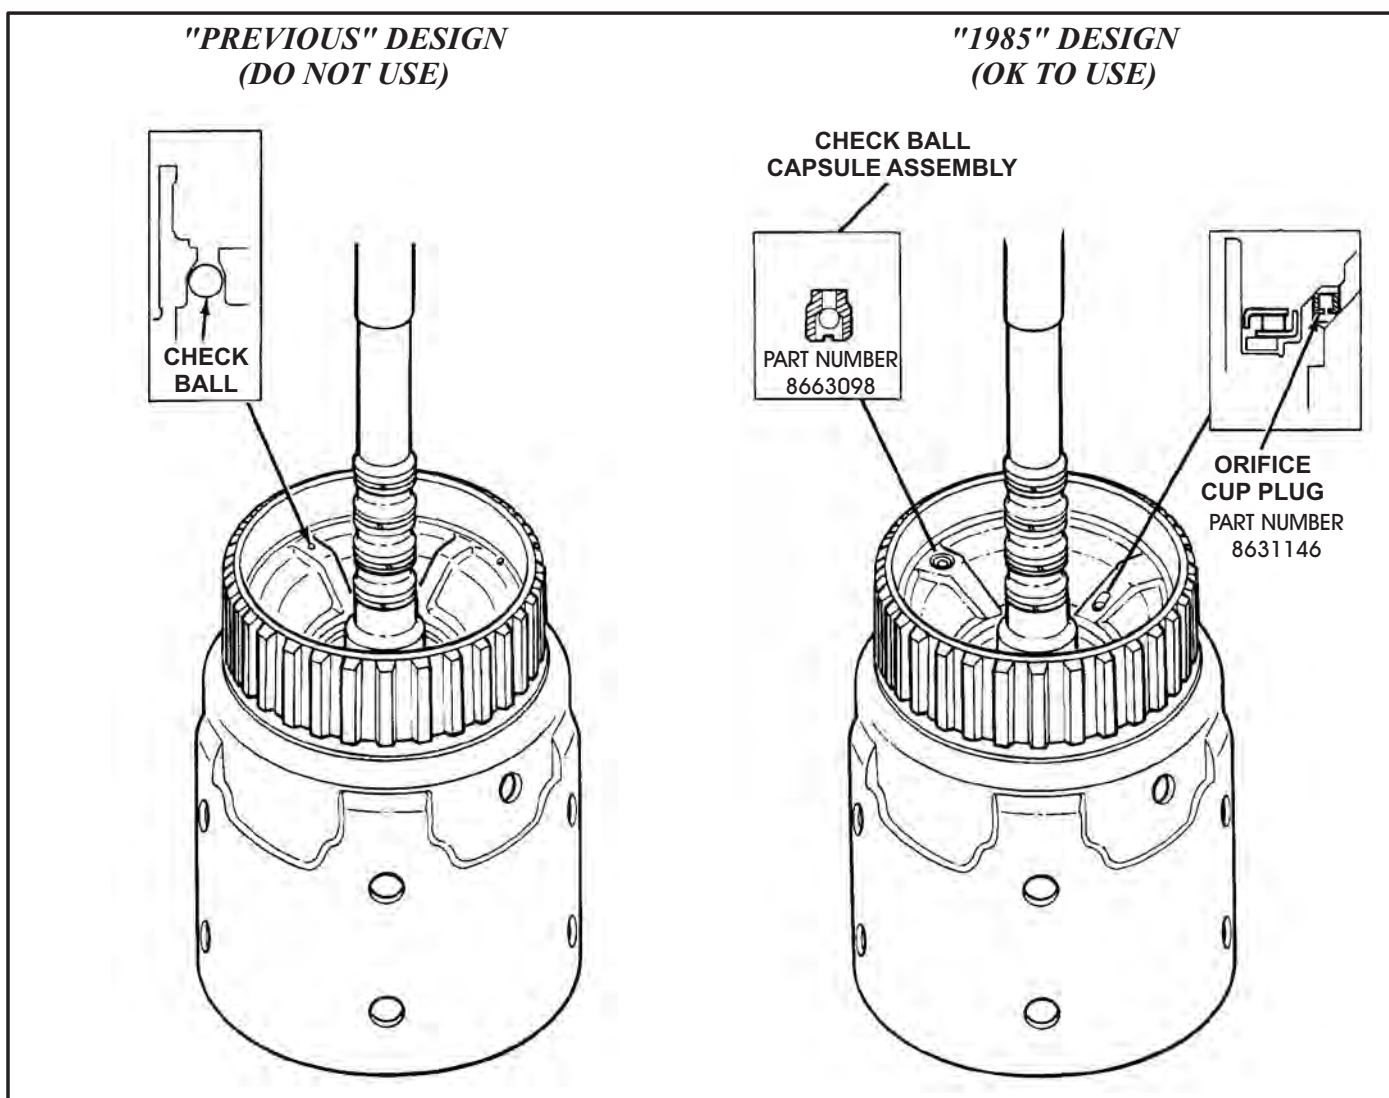

Figure 6
CHANGE: Beginning on January 15, (Julian Date 015) 1984, all THM 700-R4 transmissions were built with a new input housing assembly, as shown in Figure 6. Start of production for 1985, all input housings were also built with an added air bleed cup plug, as shown in Figure 6.
(1) INPUT HOUSING ASSEMBLY - The previous design input housing had a check ball seat drilled into the housing. A check ball was installed into this hole and the opening was then staked to retain the ball, as shown in Figure 6.
The new design **1985** input housing has a check ball retainer assembly which is pressed into the housing, as shown in Figure 6, **and** an added air bleed orifice cup plug.